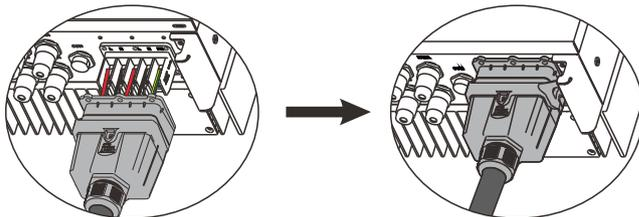

Figure 4.3-6 Install ac connection terminals
**Step 4.** Connect the combined AC cable to the AC terminal of the inverter, tighten the cable to a torque of 2.0 N.m to 2.5 N.m, and then lock the AC cover. See Figure 4.3-6.